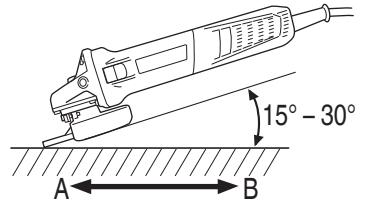

Fig. 4
Do not apply the entire surface of the depressed center wheel to the material to be ground. As shown in **Fig. 4**, the machine should be held at an angle of $15^{\circ} - 30^{\circ}$ so that the external edge of the depressed center wheel contacts the material at an optimum angle.
4. To prevent a new depressed center wheel from digging into the workpiece, initial grinding should be performed by drawing the grinder across the workpiece toward the operator (**Fig. 4 direction B**). Once the leading edge of the depressed center wheel is properly abraded, grinding may be conducted in either direction.